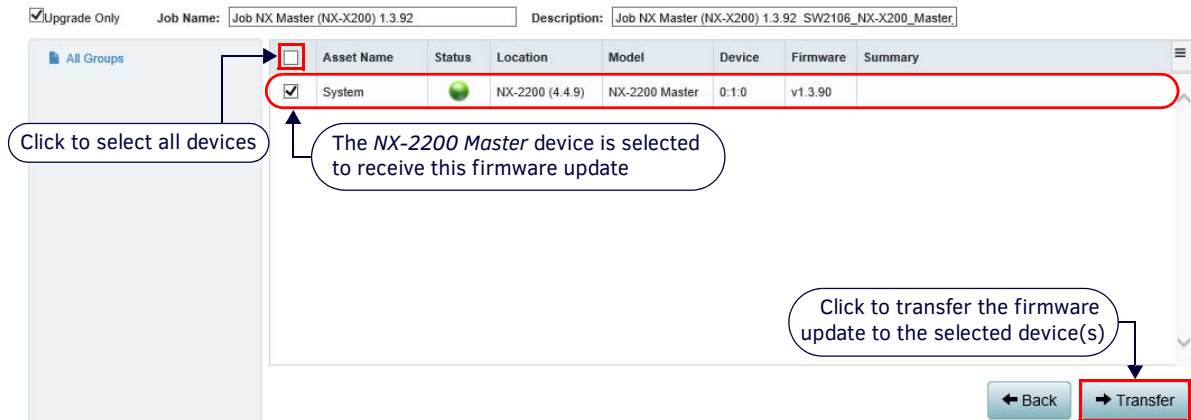

FIG. 37 Firmware Updates (Devices) page
4. Select a file to deploy (for example, "NX Master" is selected in FIG. 36), and click **Next** to proceed to the **Devices** page. Use the options in this page to select specific devices as targets for the selected firmware update (FIG. 37):
This page lists all system devices that use the selected firmware file. In the example shown in FIG. 37, there is only one device (a NX-2200 Master) that can use the selected firmware file.